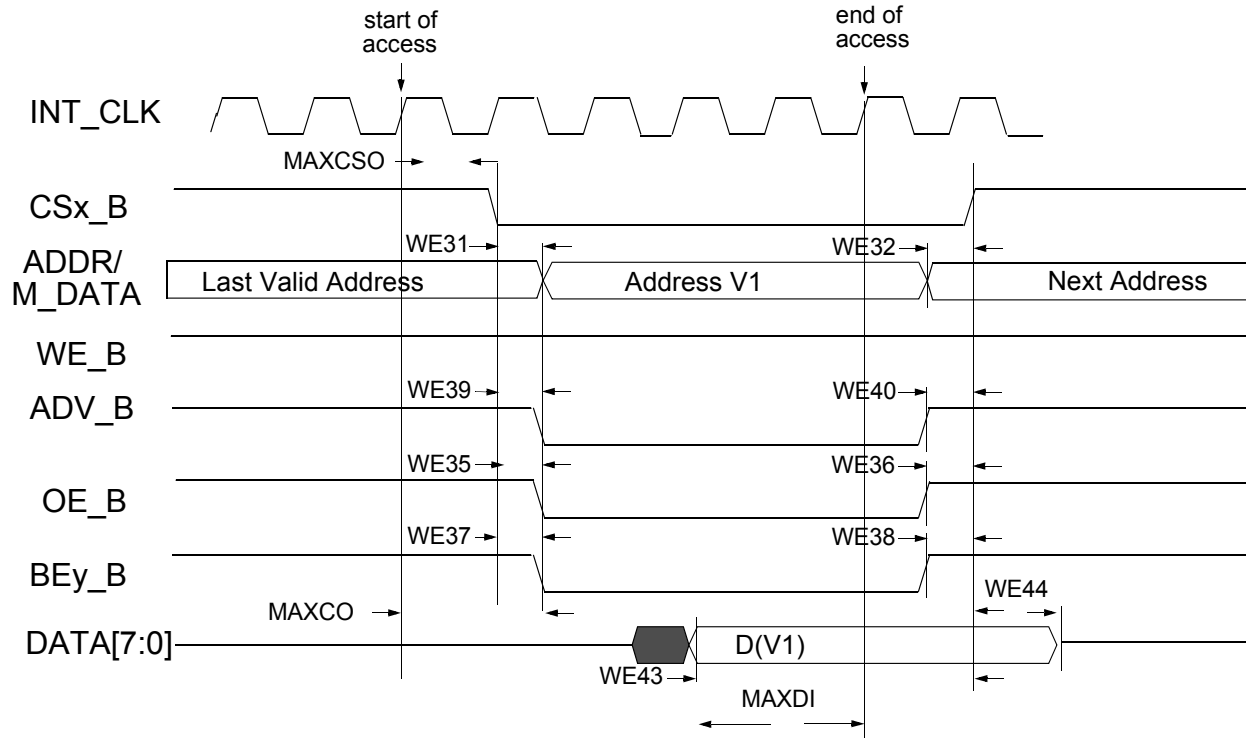
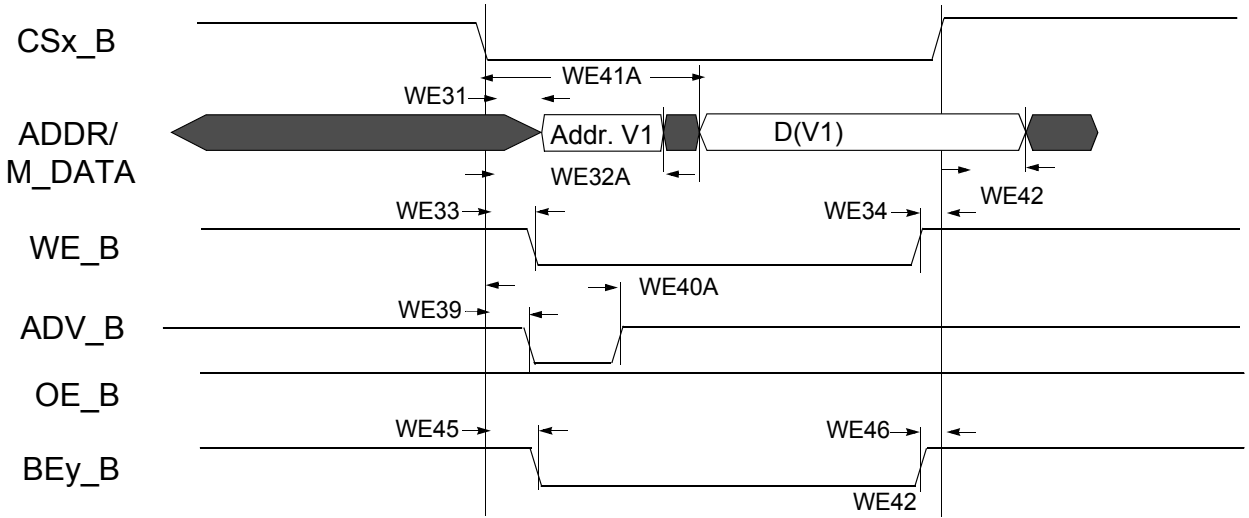
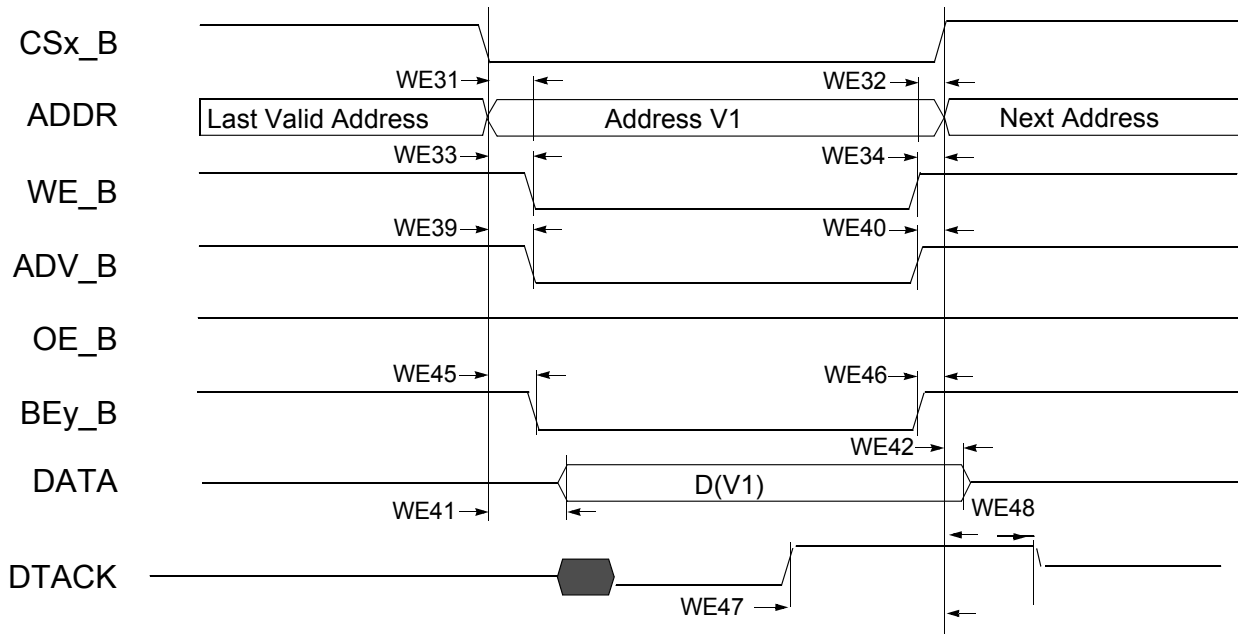

Figure 22. Asynchronous Memory Read Access (RWSC = 5)
Figure 25. Asynchronous A/D Muxed Write Access
Figure 27. DTACK Write Access (DAP=0)
Figure 22 through Figure 27, and Table 40 help to determine timing parameters relative to the chip select (CS) state for asynchronous and DTACK EIM accesses with corresponding EIM bit fields and the timing parameters mentioned above.
Asynchronous read and write access length in cycles may vary from what is shown in Figure 22 through Figure 25 as RWSC, OEN, and CSN is configured differently. See i.MX53 reference manual for the EIM programming model.